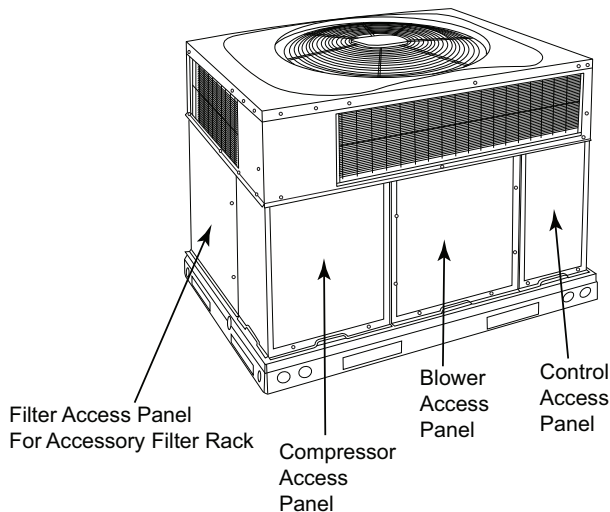

Fig. 3 - Accessory Filter Rack Access Panel
Refer to Fig. 3 for location of unit front access panel. Refer to Fig. 4 for location of gas valve. Refer to Fig. 5 while proceeding with the following steps.
4. Remove the control access panel with a 5/16-in. nut driver. (See Fig. 3.)
4. Remove the control access panel. (See Fig. 3.)
Table 1 indicates the correct indoor filter size for your unit. Refer to Fig. 3 to access filters installed in the accessory filter rack. If using an Accessory Filter Rack, refer to the Installation Instructions provided with it for correct filter sizes and quantities.
To replace or inspect filters in accessory filter rack (See Fig. 3):